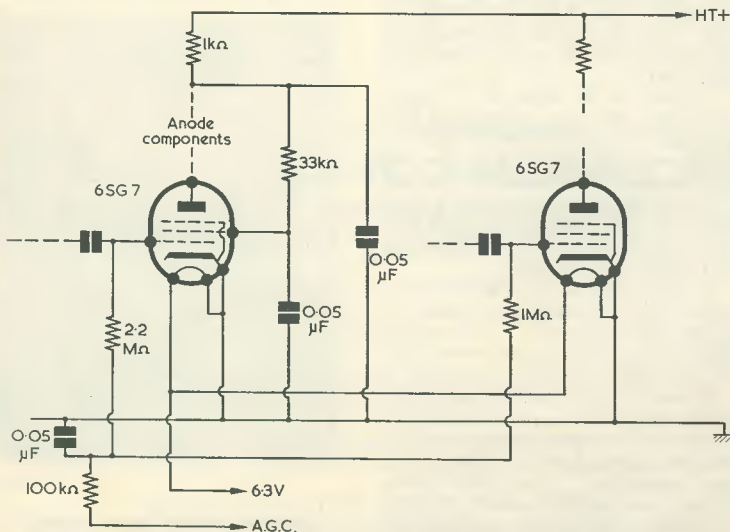
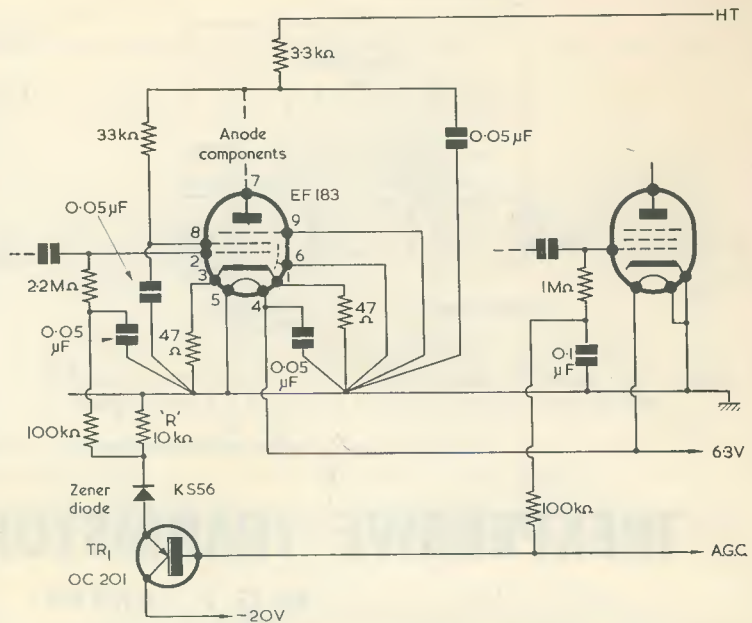
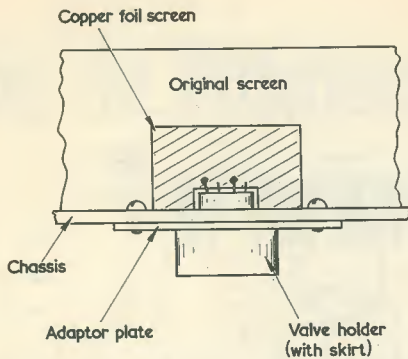

Fig. 1. The existing aerial r.f. amplifier stage in the AR88
Fig. 2. The modified circuit incorporating an EF183
Fig. 5. Side view of the screen assembly. The copper foil screen is cut to fit and sweated to the original screen and to pins 5, 6 and the spigot
Fig. 1 shows the original circuit and Fig. 2 the modified version. As can be seen, the a.g.c. and heater supplies have been rearranged, and the decoupling components and cathode circuit rewired to reduce feedback.
Fig. 1. The r.f. and i.f. section of the receiver. The numbers on L_1 to L_4 indicate the leads identified in the layout diagram of Fig. 5. Also indicated are the start (S) and finish (F) of each winding. It is most important that the oscillator coil, in particular, be connected as shown here
Components List (Figs. 1 and 2)